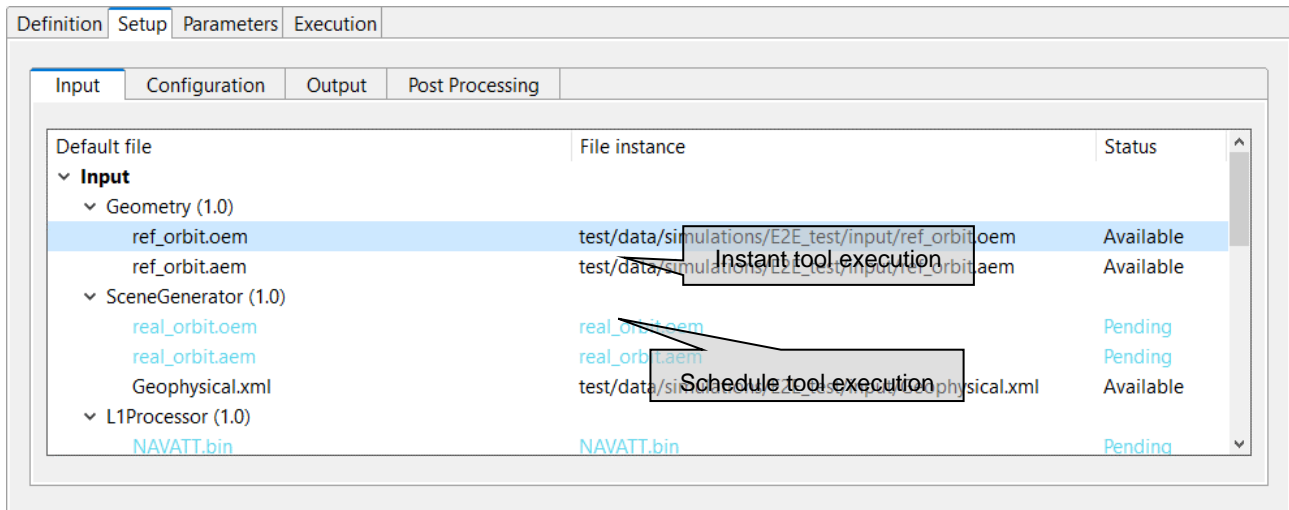

Figure 4-65: Tool Execution/Schedule from Simulation Edition View
- Tool execution from the simulation edit view and execution results view (see Figure 4-65). The execution view is the same as the simulation view with two particularities, 'Results' tab is enabled and the status is completed (successfully or not). Note that in the execution view the status of the output files is shown as *Available* if the simulation chain has been successfully executed while in the simulation editing the status is shown as *Pending* (see Section 4.3.3.6.3).